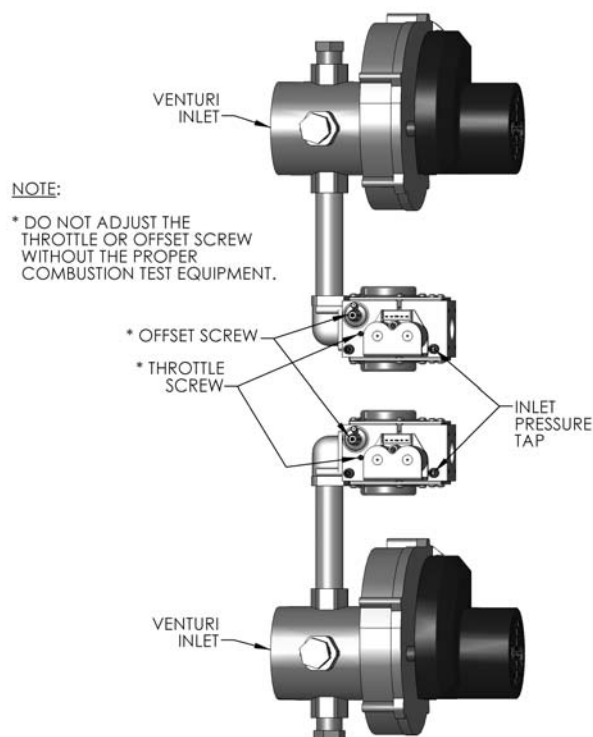

Figure 5.2: Gas Valve, Venturi, Blower Assembly – PF-850/1000
- c. Using a flat screwdriver, turn the screw inside the inlet pressure tap fitting (see Figure 5.2) one turn counterclockwise.
1. Figure 5.2 is an illustration of the main gas valve, venturi and blower assembly for the *PUREFIRE®* boiler.
2. Do not make adjustments to the gas valve without instrumentation to measure carbon dioxide (CO₂) and carbon monoxide (CO) emissions in the exhaust vent pipe.